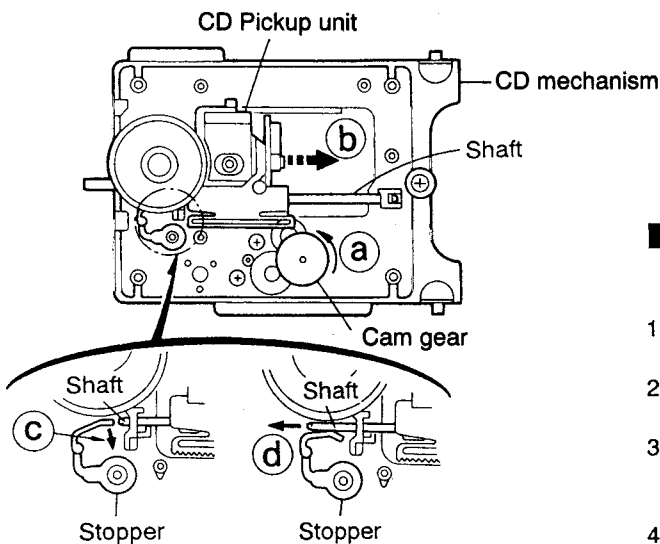

Fig.5-47
(See Fig.5-47)
1. Move the cam gear in the arrow direction ①. Then, the CD pickup unit will be moved in the arrow direction ②.
2. According to the above step, shift the CD pickup unit to the center position (See Fig.5-47).
3. While pressing the stopper retaining the shaft in the arrow direction ③, pull out the shaft in the arrow direction ④ (See Fig.5-47).